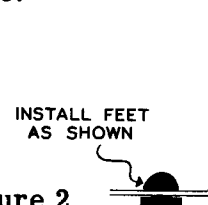

Figure 2
- (X) Connect a wire from pin 4 (S) on the connector socket to the center lug on condenser PC (NS).
- (X) Connect the black lead from the filter choke to the center lug on condenser PC (S).
- (-) Connect the red lead from the filter choke to pin 8 (NS) on V5.
- (X) Connect the positive (+) lead of a 20 μ fd 350 volt electrolytic condenser to pin 8 (S) of V5 and the other lead to terminal strip PA (S).
- (X) Connect the positive lead of another 20 μ fd 350 volt electrolytic condenser to terminal strip PA (S) and the other lead to the ground lug (S) at V5.
- (X) Connect a wire between a twisted mounting prong (S) on condenser PC and the center lug (S) on condenser PB.
- (X) Connect a wire between a twisted mounting prong (S) on condenser PB and a ground lug (S) at socket V5.
- (X) Place the end of the line cord through grommet PH from the top of the chassis and tie a knot for strain relief so it cannot be pulled out.
- (X) Connect one wire of the line cord to the side lug (S) of fuse holder PE and the other wire to pin 6 (S) on the connector socket.
- (X) Check the wiring very carefully against the pictorial and make sure each connection is properly soldered. Shake out any excess solder and loose short pieces of wire.
(X) Install the four rubber feet in one of the bottom plates as shown in Figure 2. Attach this plate to the bottom of the chassis with six #6 sheet metal screws.